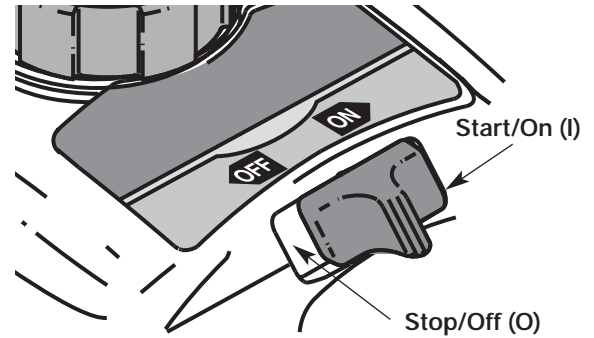

Fig. 6
2. Move the On/Off Stop Control to the ON (I) position (Fig. 6).